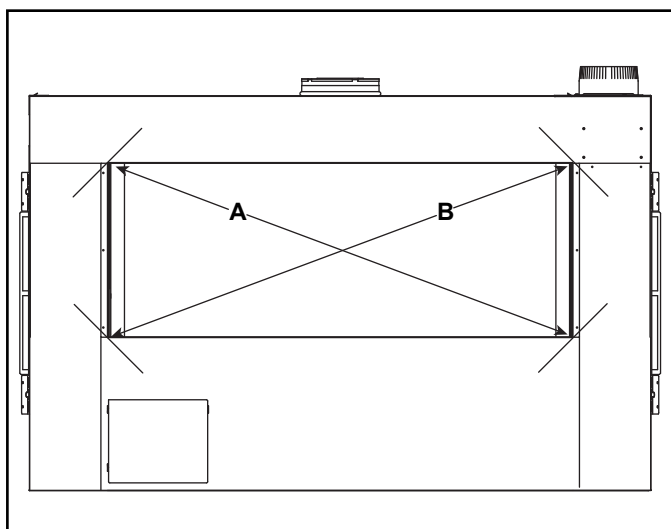

Figure 6.3 Positioning the Appliance Squarely
Figure 6.3 shows how to properly position and secure the appliance. Nailing tabs are provided to secure the appliance to the framing members.
- “Square” the appliance as shown in Figure 6.3.